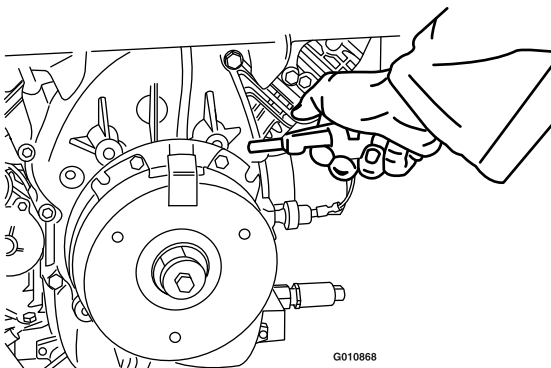

Figure 69
3. Using an air compressor, blow out any debris from under the brake pole and around the brake spacers (Figure 69).